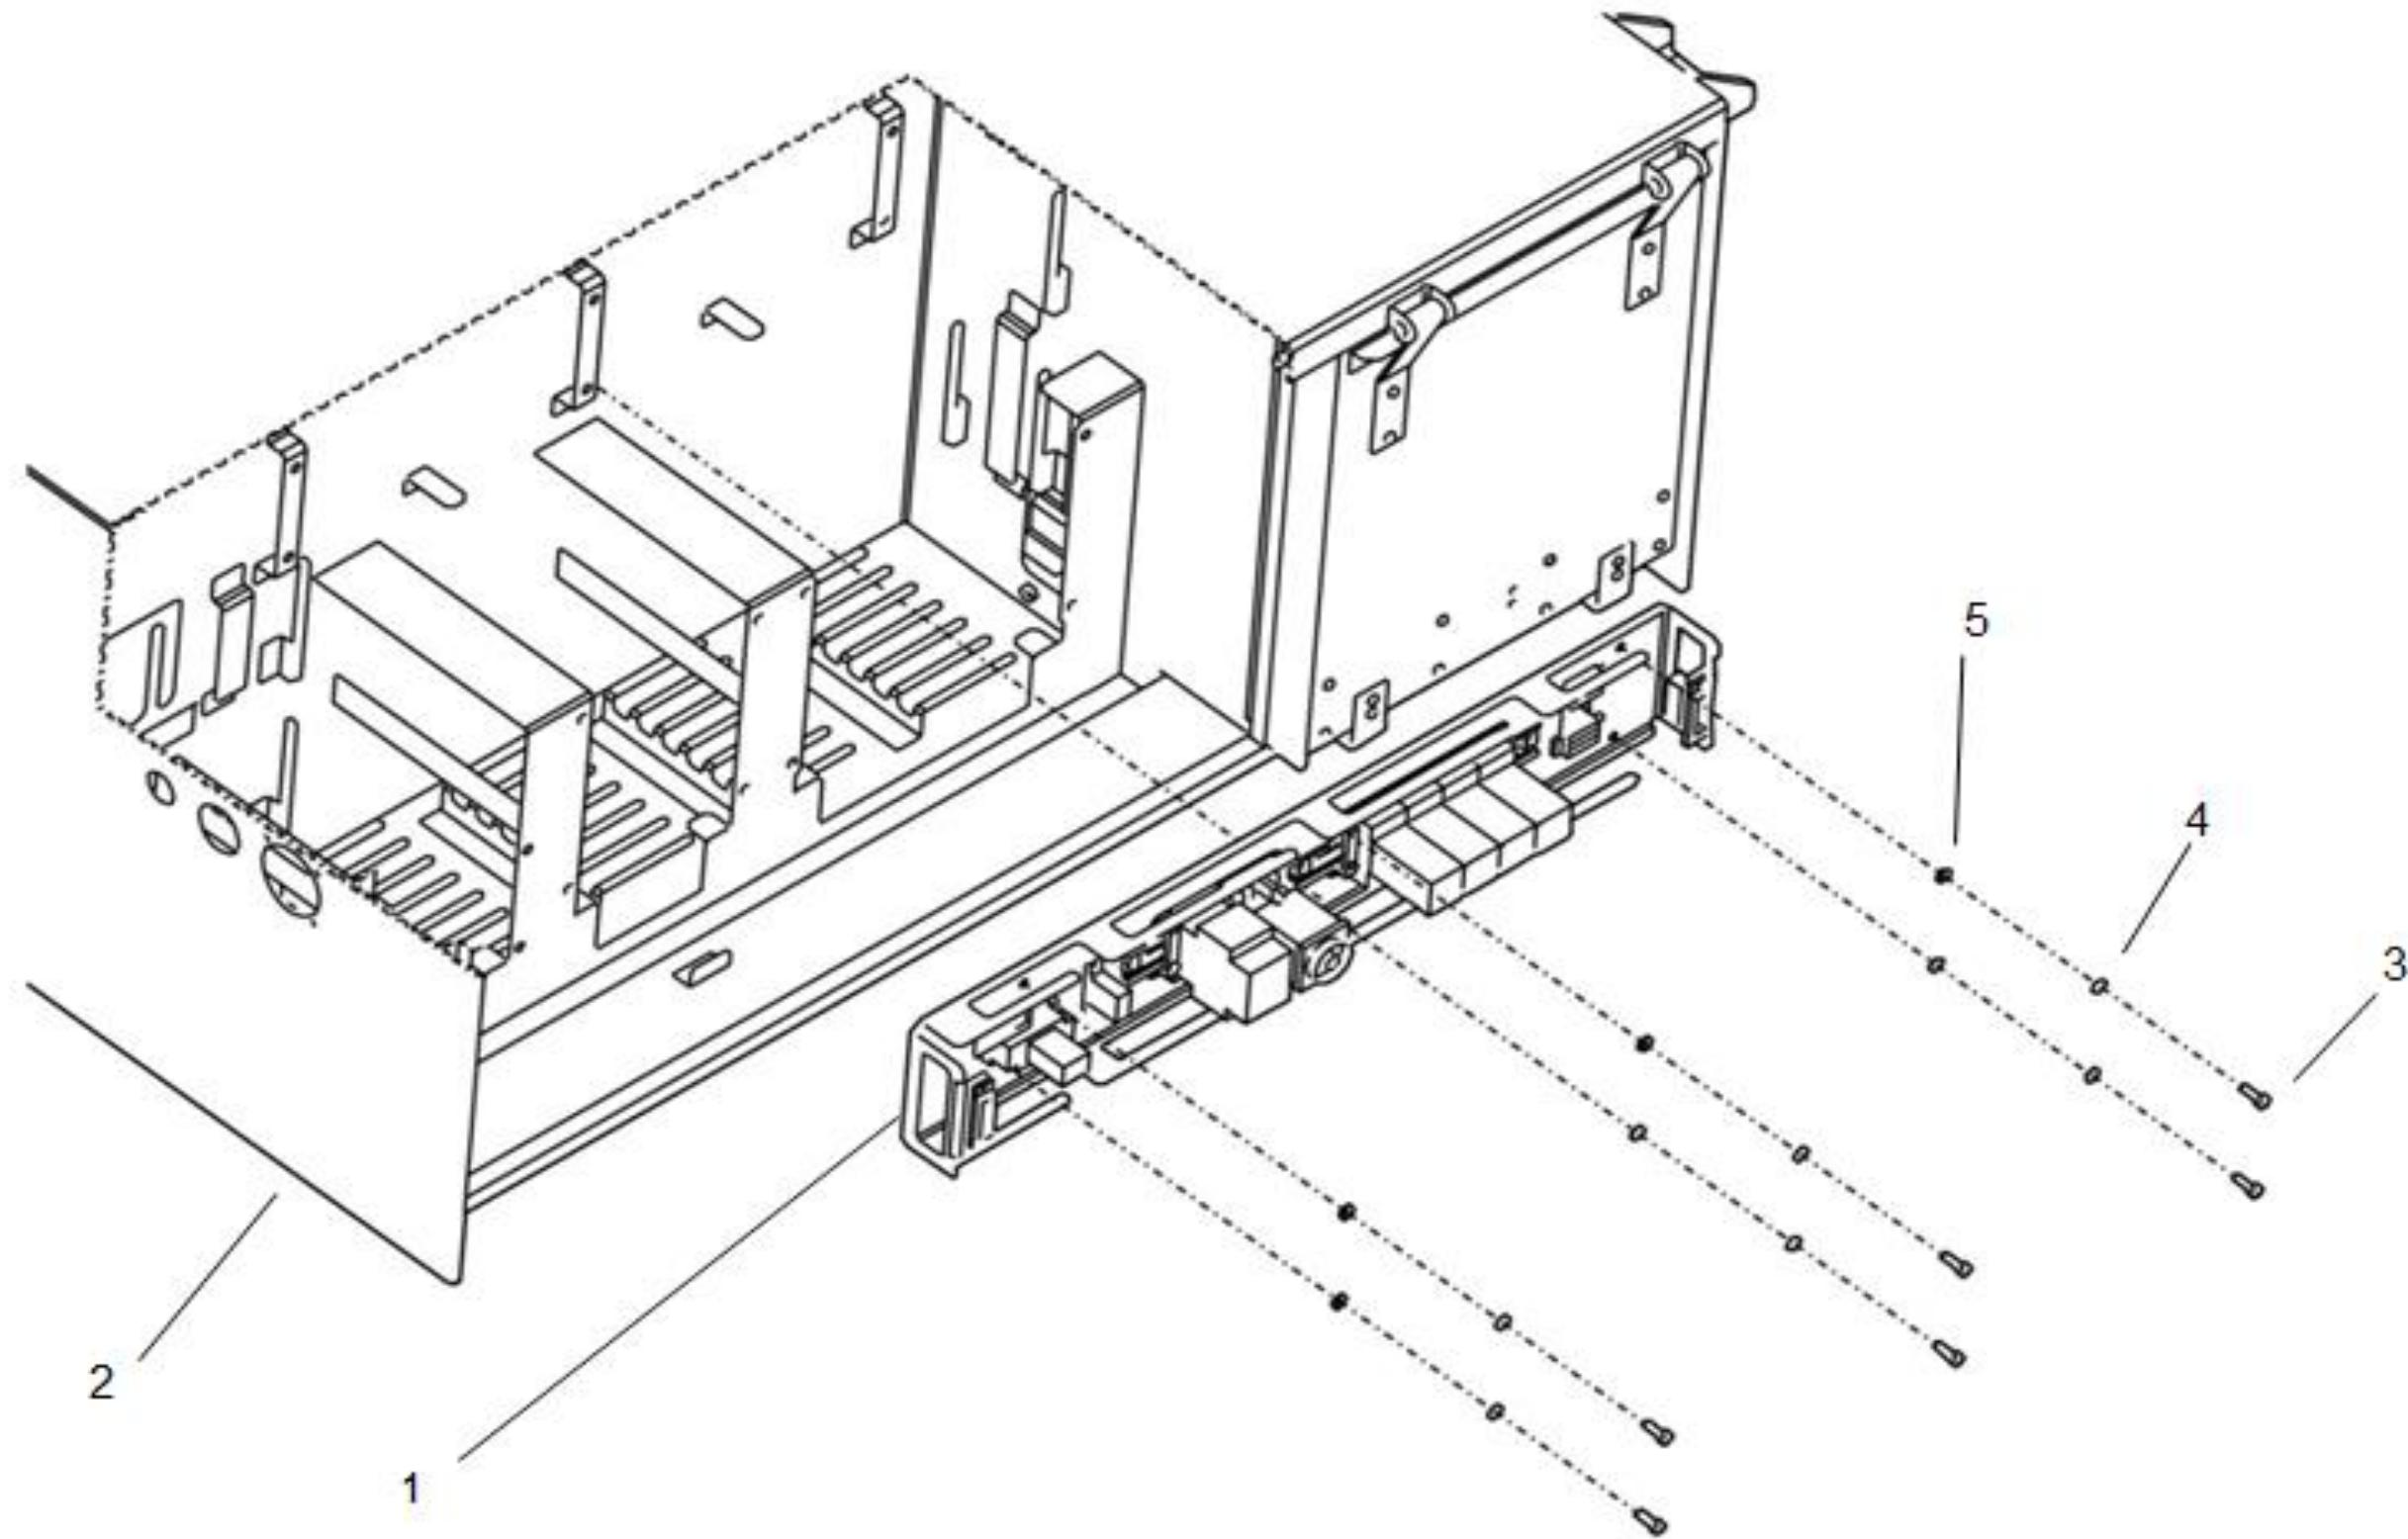

Figure 5-13: Relay Unit Installation
2. The Relay Unit (1) can be removed without disturbing any other components in the equipment case (2), Figure 5-13. First, remove the longer door on the side that has two doors.
4. Loosen the six hex head bolts (3), flat washers (5) and lock washers (4) that secure the Relay Unit to the frame as shown in Figure 5-13. Use a 10 mm socket. These are M6 bolts. The relay assembly can then be removed.
2. Loosen the three hex head bolts (24), flat washers (26) and lock washers (25) that secure the DIN rail to the Relay Unit as shown in Figure 5-13. These are M5 bolts. Use an 8 mm socket. The DIN rail assembly can then be removed.